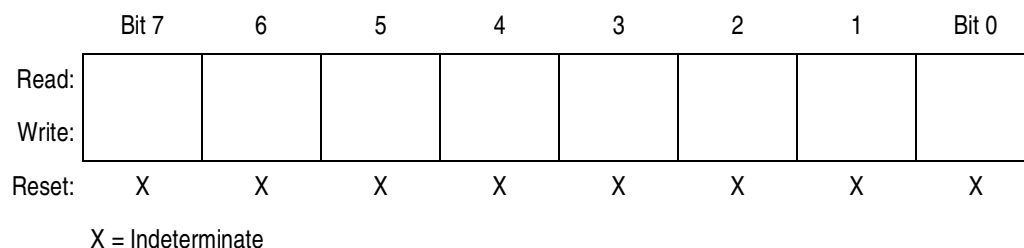

Figure 2-2. Accumulator (A)
The accumulator (A) shown in Figure 2-2 is a general-purpose 8-bit register. The central processor unit (CPU) uses the accumulator to hold operands and results of arithmetic and non-arithmetic operations.